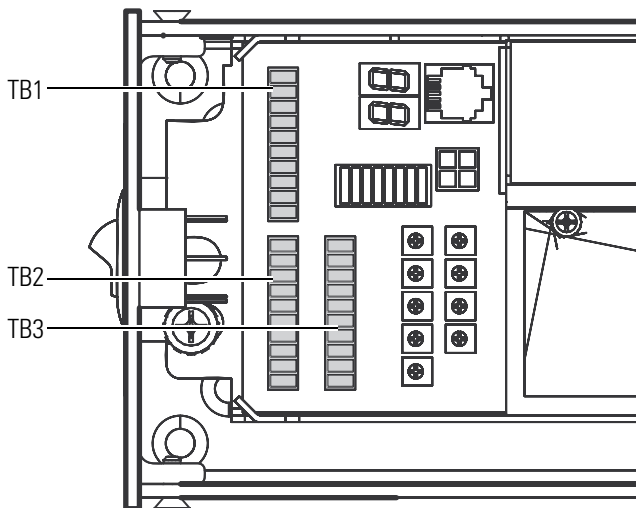

Figure 1.17 Front view of the connector board
1. Locate the TB1 connector. See Figure 1.17.
1. Locate the TB2 connector. See Figure 1.17.